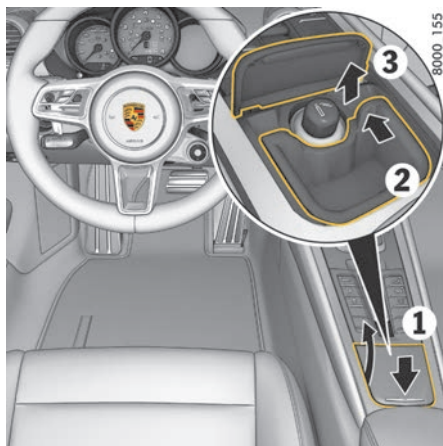

Fig. 195: Opening and emptying the ashtray
1. Press briefly on the ashtray lid (Fig. 195, 1). The lid opens automatically.
2. To unlock, press ashtray insert forward at the top right until you feel it disengage (Fig. 195, 2 and 3).